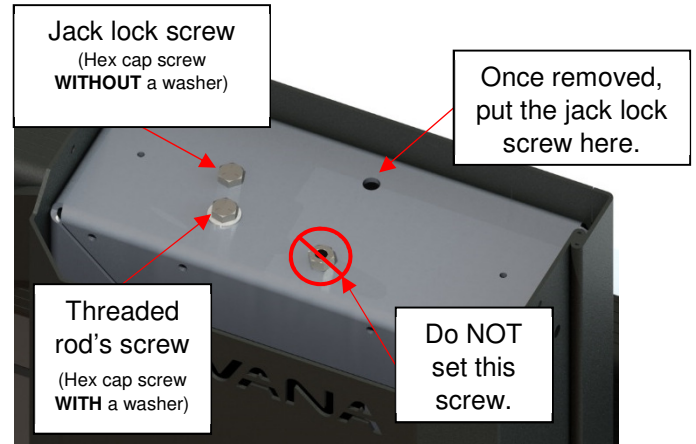
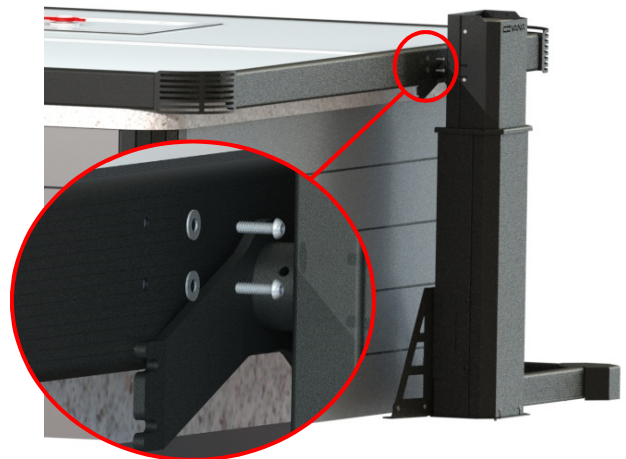

Figure 86
Figure 87
- 22) Remove the two front 1/4-20-1 in. screws on both sides of the cover as shown in Figure 86. Do not discard these screws.
- 23) Slide the cover approx. 4 in. (10.16 cm) toward the rear of the spa. (Figure 87)
- ◆ Never unscrew the four screws of the cover at the same time (Figure 86 and Figure 87). We highly recommend leaving the two rear screws in and sliding them into the pivot arms' screw slots since the two front screws will be easier to put back.